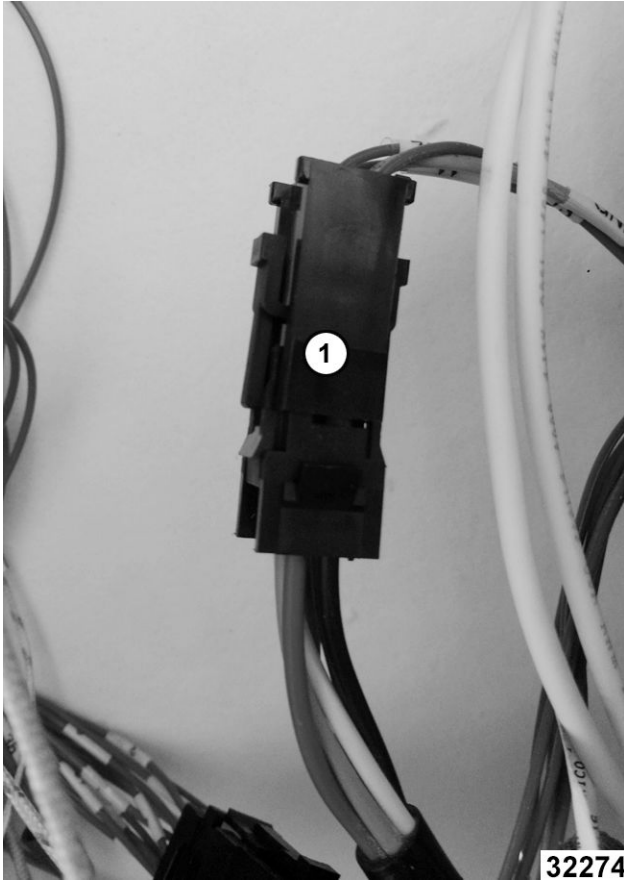

Fig. 36
2. Disconnect motor harness (1, Fig. 36).